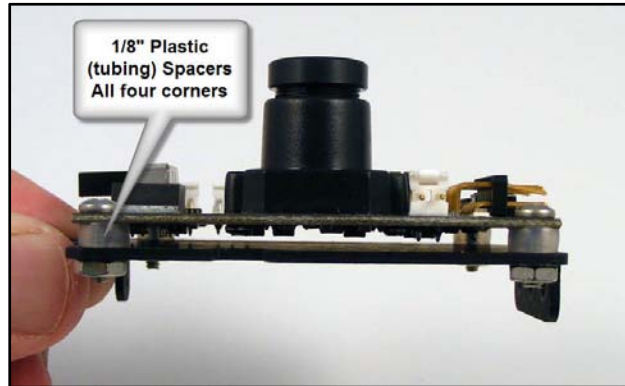

Figure 9
- 5.) If you are using a CMUcam2+, then bolt the camera on the front of the Cam Plate using four 4-40 x 3/8" Pan Head screws, 4-40 nuts, and four plastic tubing spacers, as shown in figure 9.